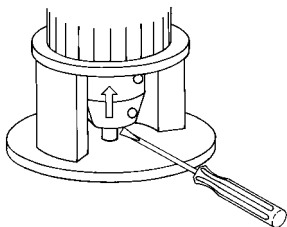

Fig. 14 Raising the coupling and the pump shaft
3. Raise the coupling and the pump shaft as far as possible (towards the motor) with a screwdriver or a similar tool so that the pump and motor shafts touch each other. See fig. 14.